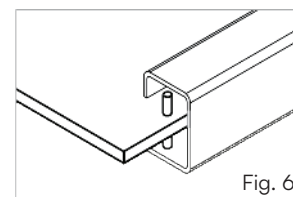

Fig. 6
- Slide top C-channel over the pins (**Fig. 6**) onto the top edge of the panel.